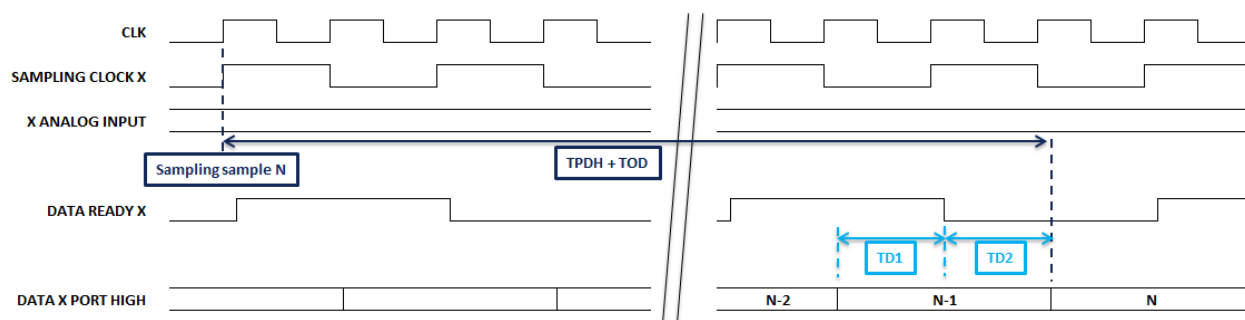

Figure 3: Timing diagram in DEMUX 1:1
3. Refer to timing diagrams in Figure 3 and 4
For both figure 3 and 4, X represents either channel A or B. If channel A and B are interleaved, the internal sampling clocks of channel A and B are in opposition and their output data and data ready are delayed by 1 external CLK cycle.